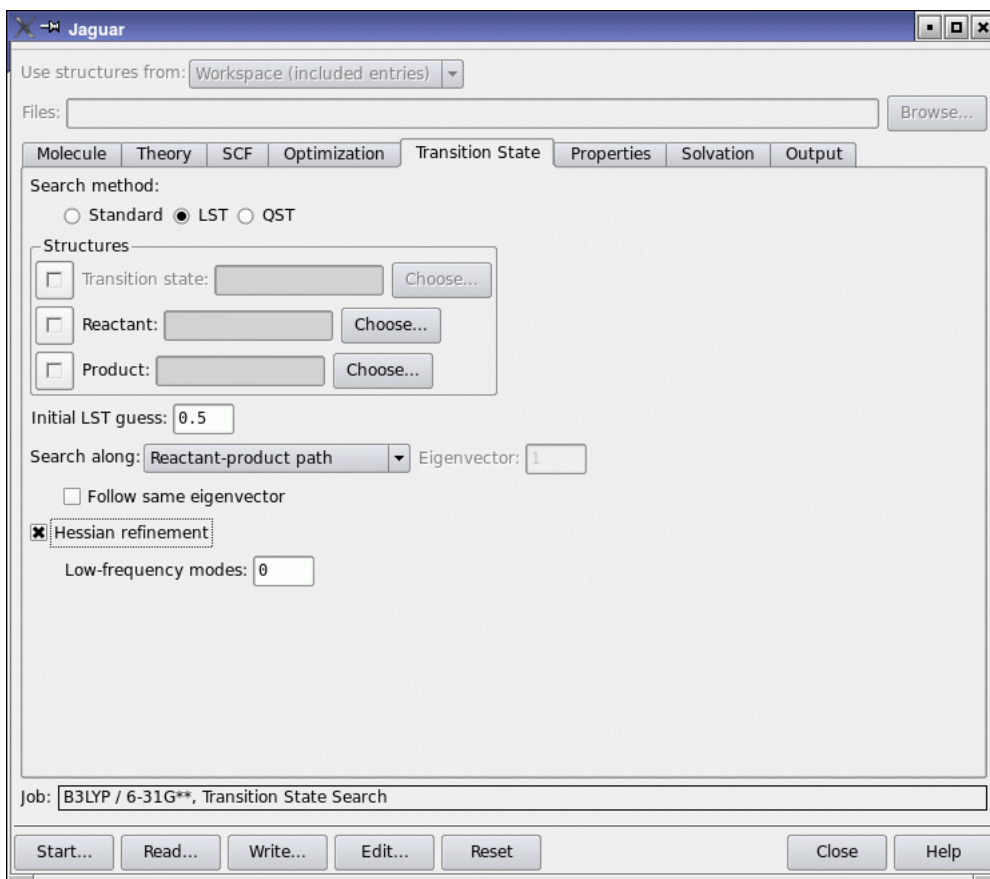

Figure 3.8. The Transition State tab.
7. In the Transition state tab (see Figure 3.8), under Search method, select LST.